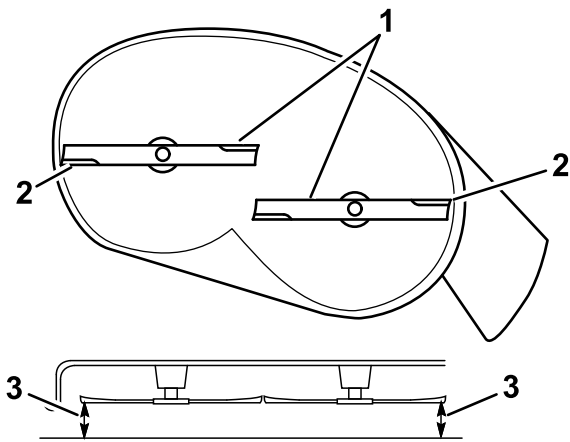

Figure 66
- Measure between the outside cutting edges and the flat surface (Figure 66).